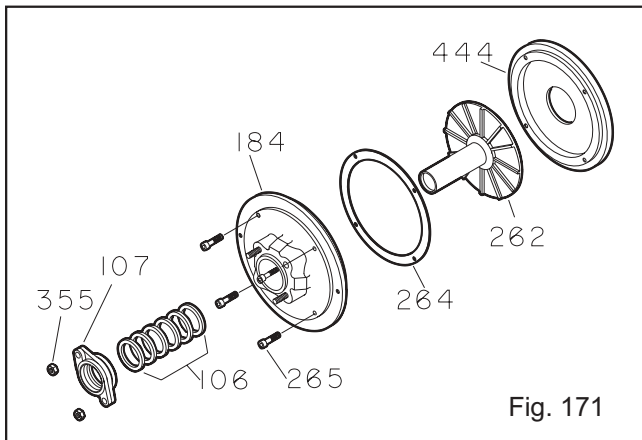

Fig. 171
1. Place backplate (444) flat side down on the bench (Fig. 171).